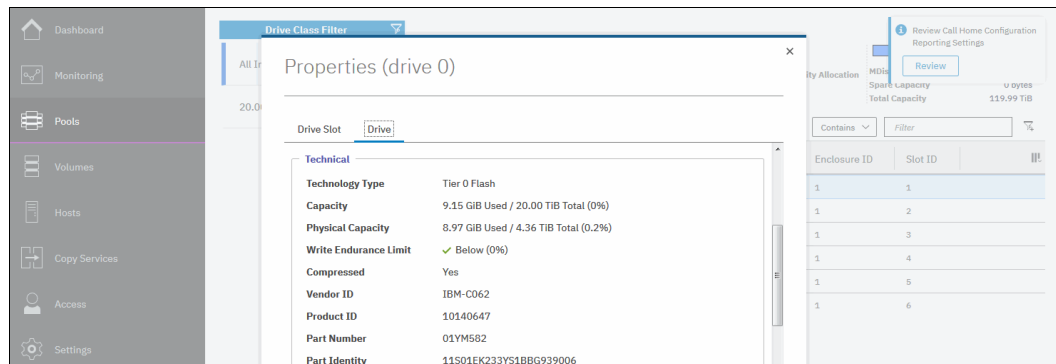

Figure 3-1 FCM capacity monitoring with GUI
- The FlashSystem 9100 system GUI (as shown in Figure 3-1) and CLI (as shown in Example 3-2) allows you to monitor effective and physical capacity for each FCM.